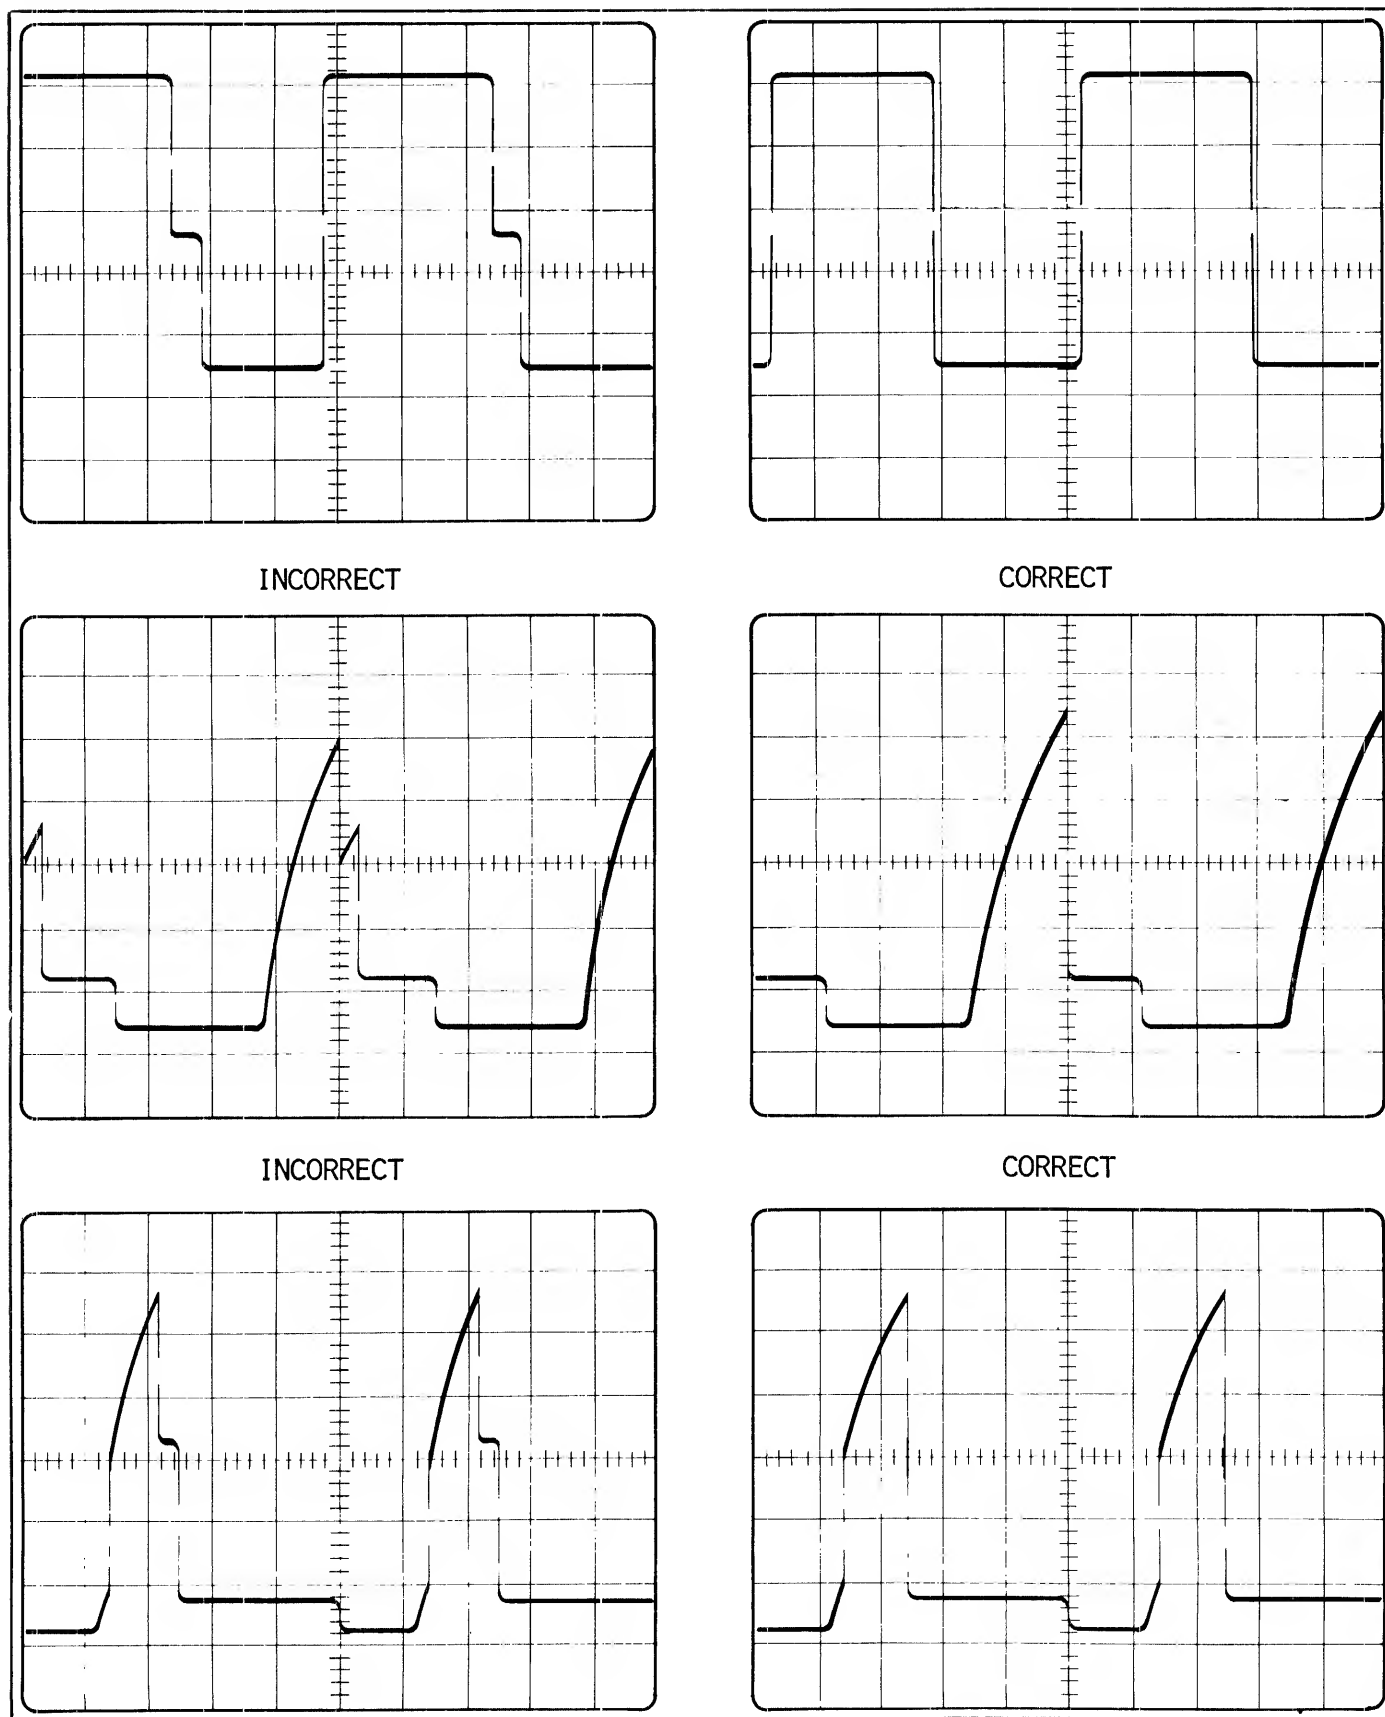

Figure 5-8. Skew Waveforms
5-34. FORWARD STATIC SKEW COMPENSATION ADJUSTMENTS. The techniques for rapid adjustment and for evaluating the need for adjustment differ. Figure 5-8 shows poor skew alignment and proper skew alignment. (Three possible waveforms due to configurations.) To adjust static skew compensation proceed as follows:
- c. Connect the oscilloscope channel A probe to the SKEW test point of the reference channel (2). Connect the oscilloscope channel B probe to each SKEW test point in succession and algebraically add oscilloscope channels A and B.
- e. Adjust each channel skew delay variable resistor for a maximum displayed amplitude (trailing edge in vertical alignment) per waveforms shown in figure 5-8.